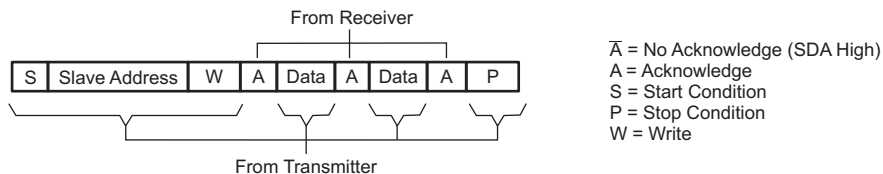
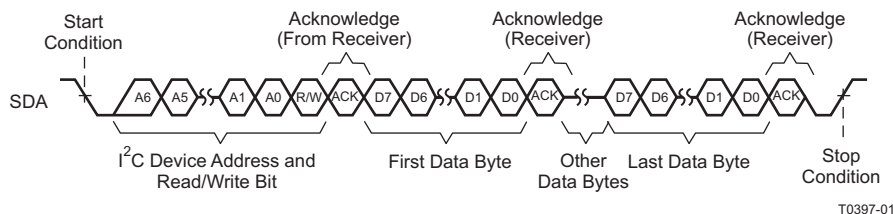
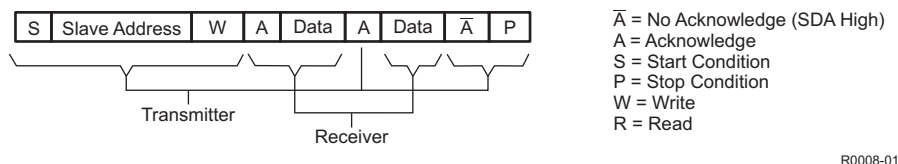
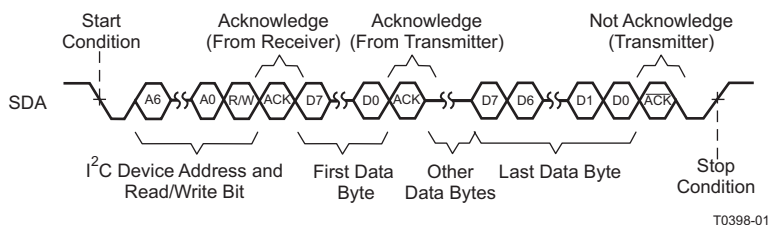

Figure 40. I²C Write Cycle
Figure 41. Multiple-Byte Write Transfer
Figure 42. I²C Read Cycle
Figure 43. Multiple-Byte Read Transfer
- The master generates further SCL cycles to either *transmit* data to the slave (R/W bit 0) or *receive* data from the slave (R/W bit 1). In either case, the *receiver* must acknowledge the data sent by the *transmitter*. So an acknowledge signal can be generated either by the master or by the slave, depending on which one is the receiver. The 9-bit valid data sequences consisting of 8-bit data and 1-bit acknowledge can continue as long as necessary (See Figure 40 through Figure 43).
During a write cycle, the transmitting device must not drive the SDA signal line during the acknowledge cycle so that the receiving device may drive the SDA signal low. After each byte transfer following the address byte, the receiving device pulls the SDA line low for one SCL clock cycle. A stop condition is initiated by the transmitting device after the last byte is transferred. An example of a write cycle can be found in Figure 40 and Figure 41. Note that the TMDS361 allows multiple write transfers to occur. See the Example – Writing to the TMDS361 section for more information.
During a read cycle, the slave receiver acknowledges the initial address byte if it decodes the address as its address. Following this initial acknowledge by the slave, the master device becomes a receiver and acknowledges data bytes sent by the slave. When the master has received all of the requested data bytes from the slave, the not-acknowledge ($\bar{A}$) condition is initiated by the master by keeping the SDA signal high just before it asserts the stop (P) condition. This sequence terminates a read cycle as shown in Figure 42 and Figure 43. See the Example – Reading from the TMDS361 section for more information.